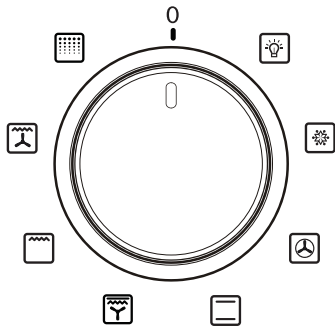

Fig. 2.1
**SELECTING THE FUNCTIONS** (fig. 2.1)